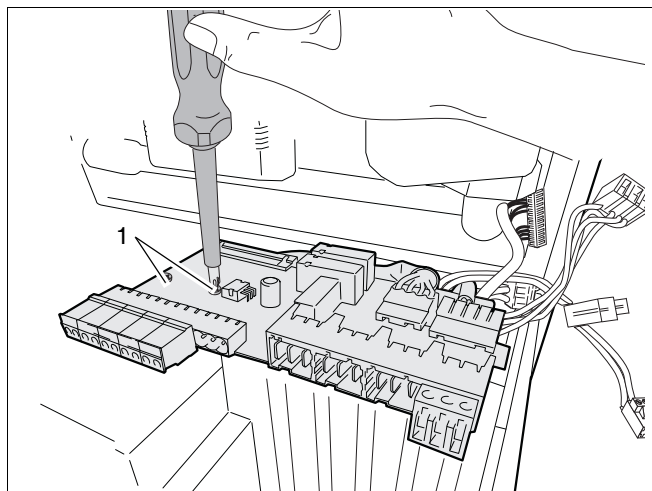

fig. 64 Loosening the fastening screws
- Loosen the 2 external connection board fastening screws (see fig. 64, pos. 1).